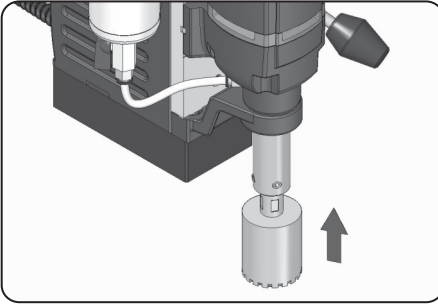

Fig. No. 7
- B. Insert cutter into drill spindle with the two (2) flats of the cutter aligned with grub screws (Fig No. 7 & 8). Make sure the center pin is inserted into the cutter.